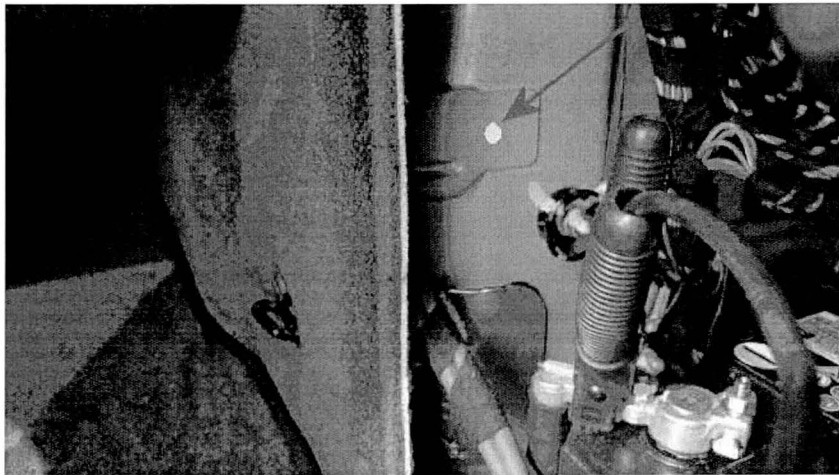

Figure 7
If the vehicle is not already listed as repaired in the "Repair history" (in Elsa Pro), check for the campaign identification mark which is a yellow paint spot on the right hand boot trim panel bracket located in front of the starter battery (Figure 7) if the paint marks are not visible please carry out the required work in accordance with
7. If no mismatch is evident, place a yellow paint completion mark on the right hand boot trim panel bracket located in front of the starter battery (Figure 7)
2. Place a yellow paint completion mark on the right hand boot trim panel bracket located in front of the starter battery (as shown in Figure 7)
Yellow paint completion mark on the right hand boot trim panel bracket located in front of the starter battery (Figure 7)